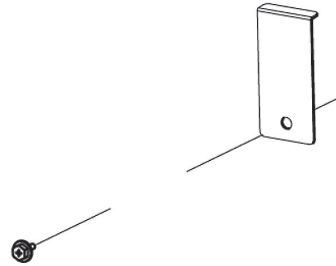

Fig.11
2. Remove the (1 or 2) brackets that secure the coil assembly. (Fig.11)